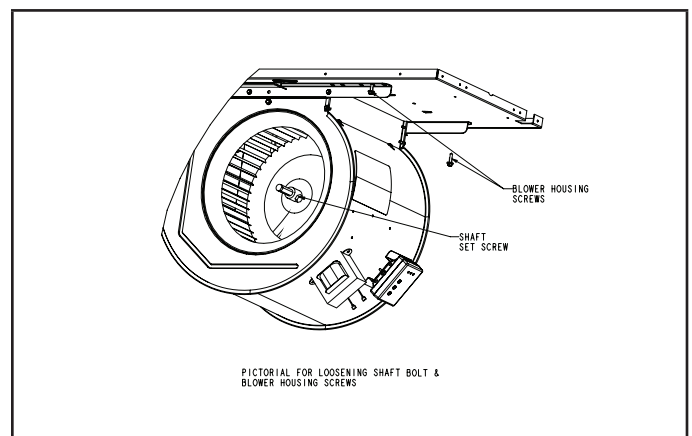

FIGURE 1
- 3 - Remove two screws securing the blower housing to the blower deck and slide blower-motor assembly out of unit. See figure 1.
- 5 - Loosen motor shaft set screw and remove all motor mount leg screws. See figure 1.
- 10 - Slide blower-motor assembly back into the unit. Secure blower housing back on to the blower deck using screws removed in step 3. See figure 1.